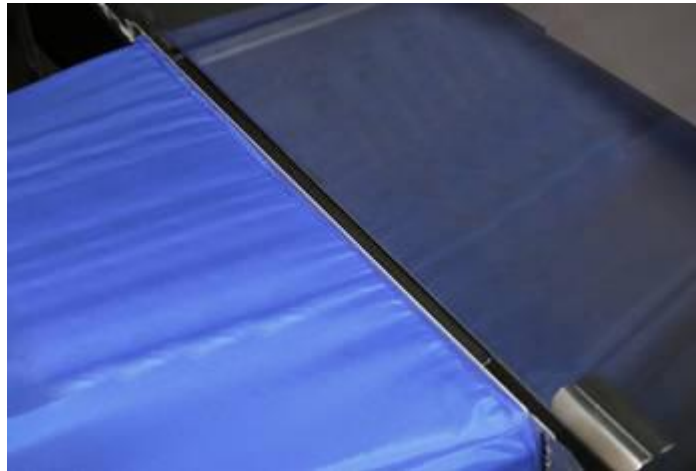

Figure 29: Lower Sash of Cabinet Until it Rests on Foam Lip of Hood Frame
6. Lower the sash of the cabinet until it rests on the foam lip of the hood frame (see Figure 29).